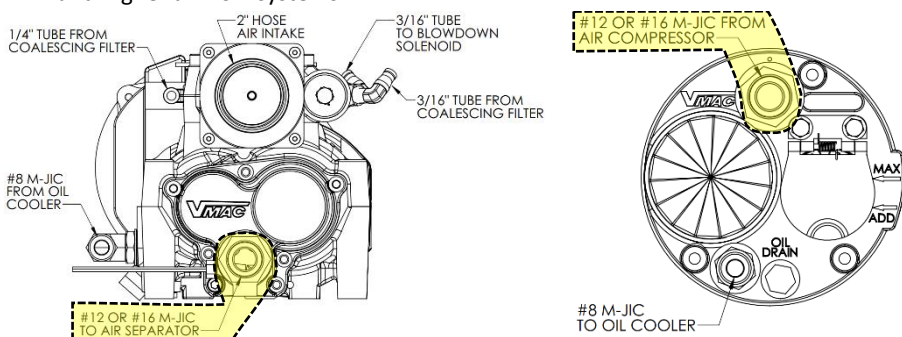

Figure 11 – Compressor Air Line Connection
- Connect the air hose from the bottom rear of the compressor to the fitting located at the top inlet side of the oil separator tank (same side as sight glass) (Figure 11). Use a second wrench to support the fitting on the component and prevent it from spinning when tightening. The recommended hose size is #12 (3/4") hose for VR90 and lower air flow systems and #16 (1") hose for VR130 and higher air flow systems.